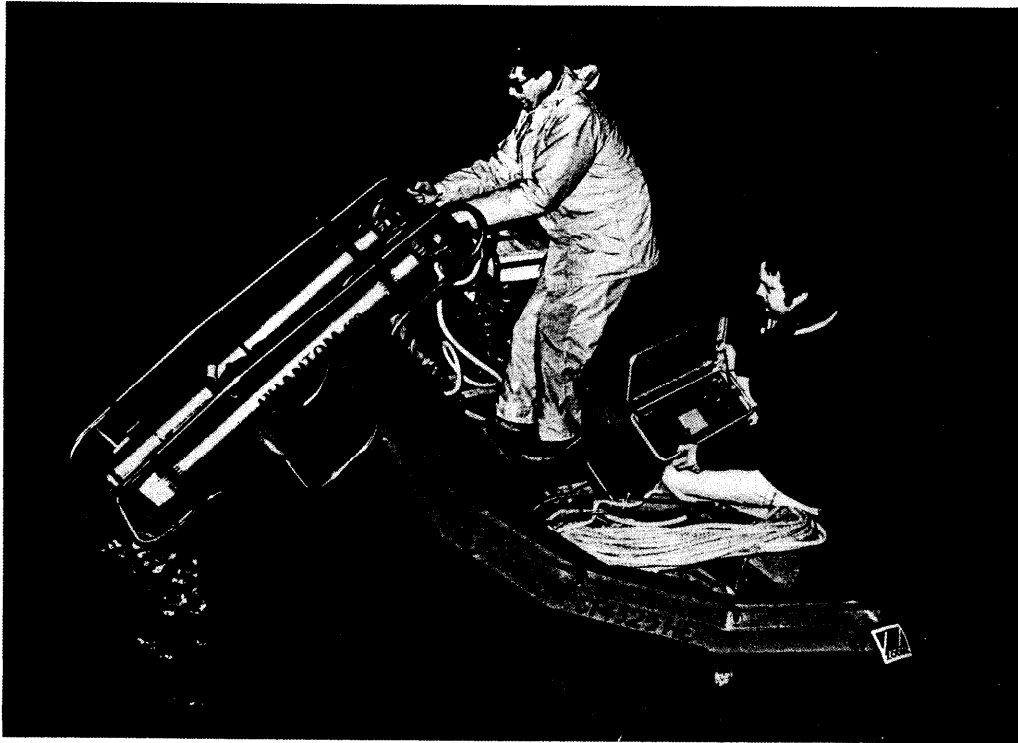

Figure 3. Phantom 500, ROV
c. Phantom 500, ROV (Figure 3)